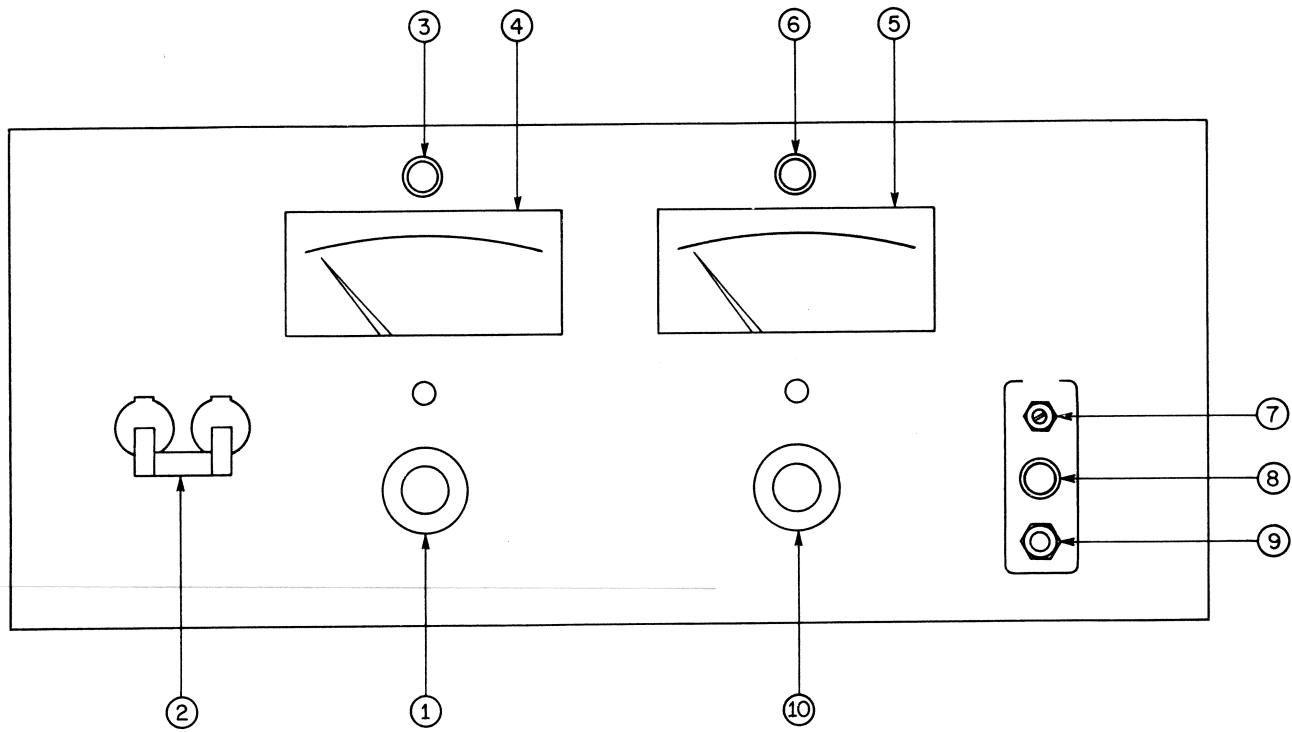

FIG. 2-2 CONTROL AND TERMINATIONS, ATE 3/4 RACK GROUP, FRONT.
- a) FRONT PANEL: Refer to FIG. 2-2 and Table 2-2.
- 2-9 A simple operating check after unpacking and before permanent installation is advisable to ascertain whether the power supply has suffered damage resulting from shipment. Refer to FIG. 2-2 and to FIG. 2-3 for the location of the operating controls and output terminals.
- To reset the adjusted crowbar point, press DISARM button again and advance VOLTAGE CONTROL clockwise. Note voltage at which the CROWBAR INDICATOR lights up. Readjust LEVEL control if necessary, by repeating step (2) and check again by repeating steps (3) and (4).